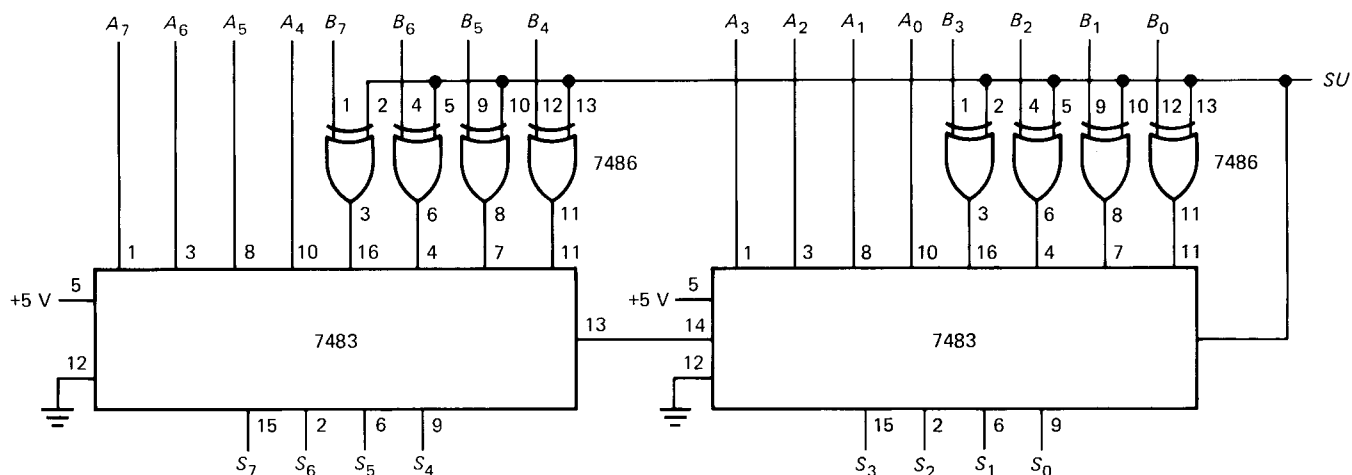

Fig. 6-9
- 6-11. Suppose the inputs to Fig. 6-9 are $A = 3CH$ and $B = 5FH$. What is the output for a low SUB ? A
- 6-12. In Fig. 6-9 which of the following inputs cause an overflow when SUB is low?